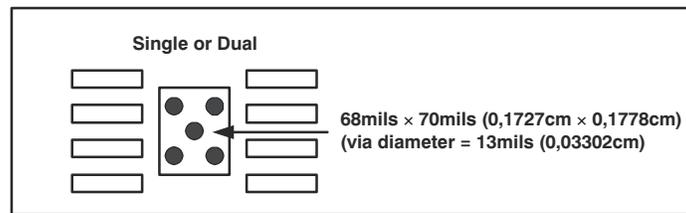

図 8-4. Thermal Pad PCB Etch and Via Pattern
2. Prepare the PCB with a top-side etch pattern as shown in Figure 8-4. Use etch for the leads as well as etch for the thermal pad.